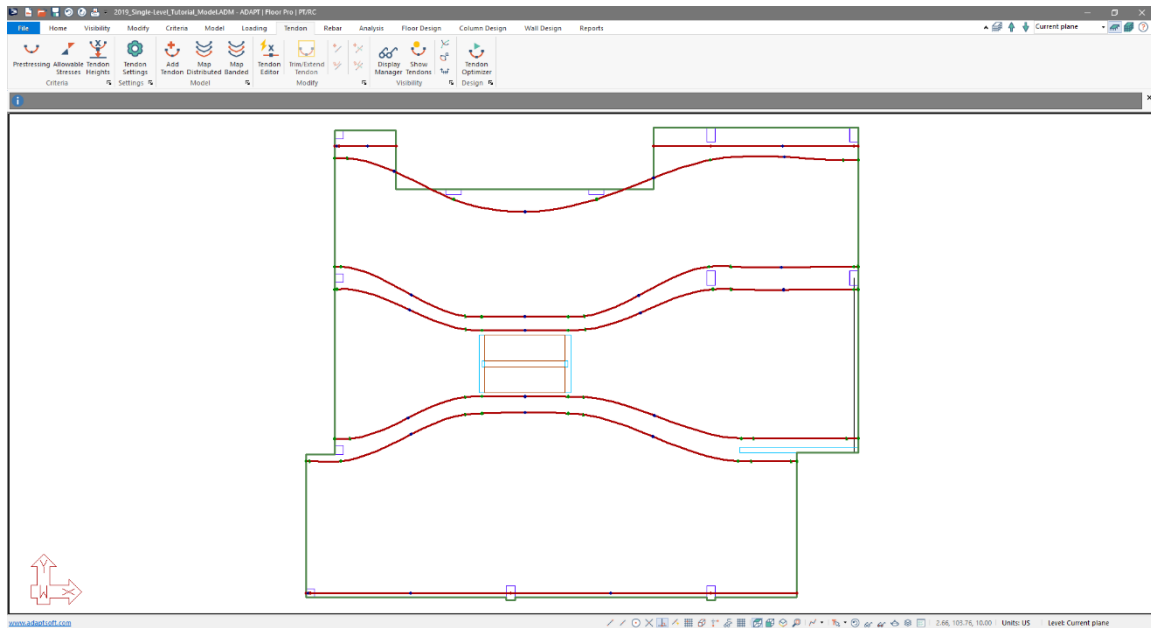

Figure 8-21
- At this point the users screen should be similar to the screen shown in **FIGURE 8-21**. Note that because the last tendon modified was a Spline Tendon the program creates this tendon as a Spline tendon.